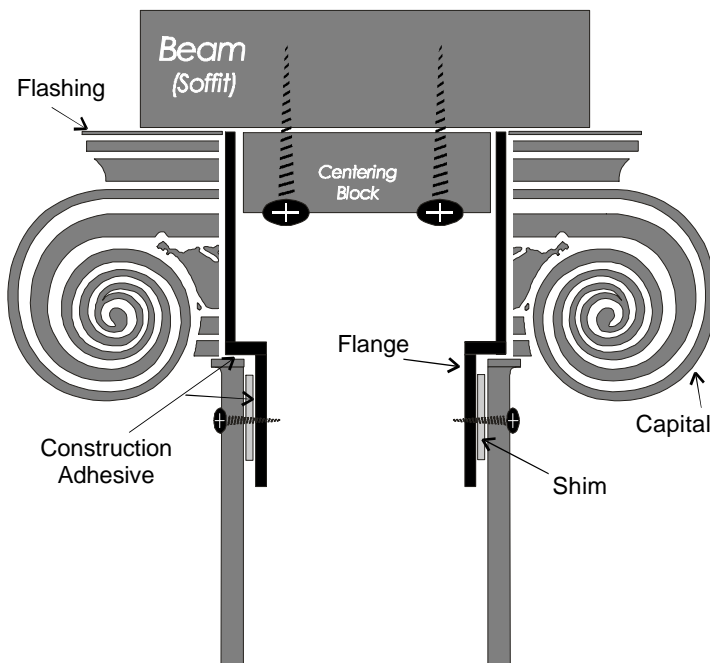

Figure 2
4. If installation requires some method of securing the column in place before load is applied, use Poly-Classic Installation Kit #71760 (see figure 2) **NOTE:** Always drill clearance holes in columns and secure with through-bolts — **DO NOT USE SCREWS** — and do not over-tighten.